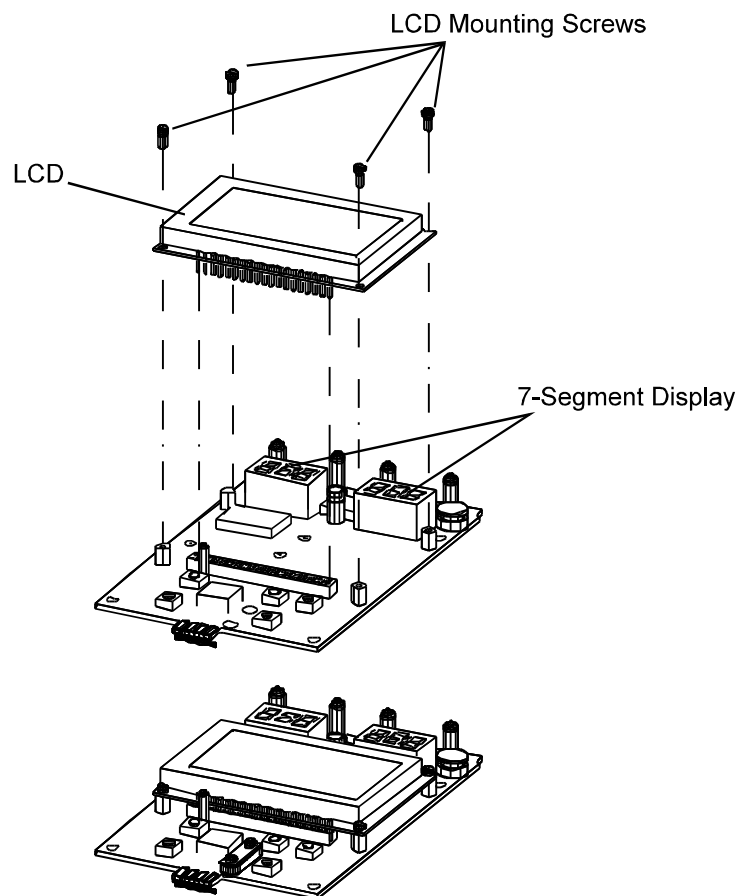

Figure 7-11: Replacing LCD and 7-Segment Display
7.6 REPLACING LCD AND 7-SEGMENT DISPLAY (REFER TO FIGURE 7-11)